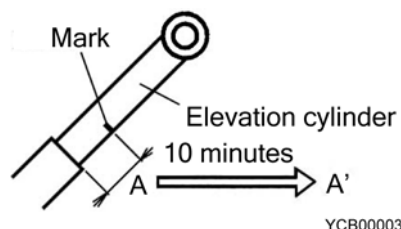

Fig. 3-15 Inspection procedures of natural descent
3. Apply the mark on the piston rod of the boom elevation cylinder, then measure the **Dimension A** as shown in Fig. 3-15.